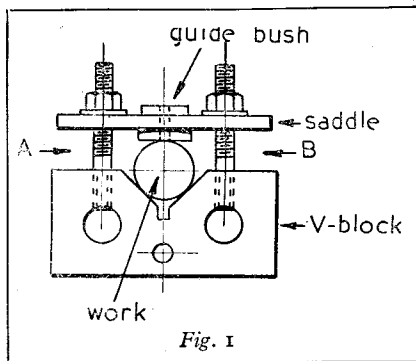
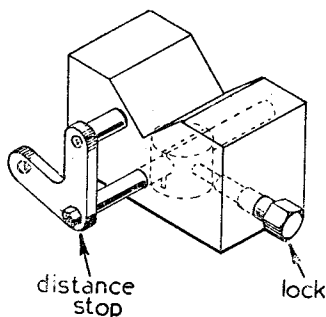
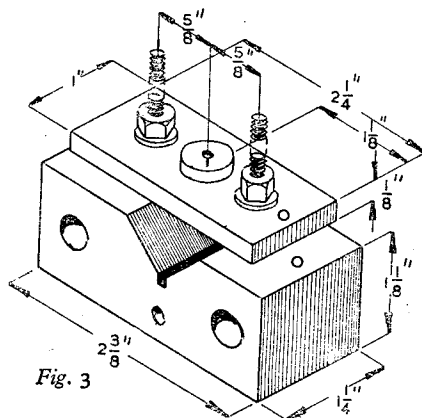
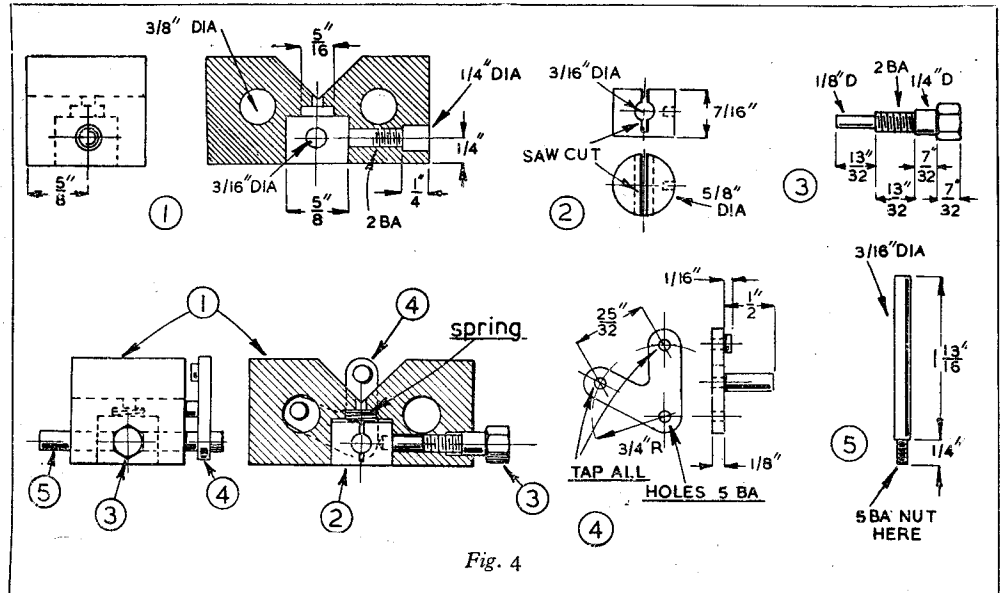

Fig. 1
Fig. 2
Fig. 3
Fig. 4
THE simple type of cross-drilling jig illustrated in Fig. 1 is easily made and will be found a useful piece of equipment for drilling shafts of from  $\frac{1}{4}$  in. to 1 in. in diameter. Moreover, as shown in Fig. 2, a work- or distance-stop can readily be fitted for the quick and accurate end-location of parts when repetition work is undertaken.
The dimensions of this part are shown in Fig. 3 and also in the working drawings in Fig. 4 (1), and although these measurements are those actually used, there is no necessity to adhere strictly to them, provided that the material selected is large enough to accommodate the essential fittings.
The V-block is now transferred to the drilling machine, and to facilitate the fitting of the work-stop at a later stage, a  $\frac{1}{8}$  in. diameter hole is drilled centrally in the floor of the V, as shown in Fig. 4 (1). Following this, the block is gripped,
The main dimensions of the saddle are given in Fig. 3, and it will be observed that one end is marked with an -O- to correspond with a similar figure on the upper surface of the V-block in order to ensure that the jig is always correctly
After the piece of mild-steel strip forming the saddle has been filed and scraped flat, it is marked-out in accordance with the drawings in Figs. 3 and 6. The central hole is drilled and then reamed to  $\frac{1}{8}$  in. diameter to accommodate a
guided by the drilled holes in the saddle, and is fed in to meet the large cross-holes as represented in Fig. 1. A letter D drill is then used to enlarge the holes in the saddle and also to make light countersinks in the upper surface of the block. The stud holes are tapped truly by mounting a No. 2-B.A. tap in the drill chuck and turning the machine spindle, either by rotating the driving pulley by hand or by using a handle, specially made for the purpose, attached to the upper end of the spindle.
The general arrangement of this assembly is shown in Fig. 2, and the detailed dimensions of the several parts are given in the working drawings in Fig. 4.
The block is now gripped in the machine vice and a No. 13 drill is used in the drilling machine to continue the previously drilled hole right through the clamp-piece, as represented in Fig. 2; this hole is then finished to size with a  $\frac{3}{16}$ -in. diameter reamer. After removal of the clamp-piece by means of a brass punch inserted in the  $\frac{3}{16}$ -in. diameter hole that was previously drilled in the floor of the V-groove, its periphery is treated with a strip of emery cloth to make it an easy push fit in its recess.
To allow the clamp-piece to close on the spindle of the work-stop and secure it in place, a cut is made with a fine hacksaw, as illustrated in the drawing in Fig. 4 (2).
silver-steel or other accurately-finished material; one end is turned down and threaded 5 B.A. to carry the quadrant and a lock-nut, as shown in Fig. 2.